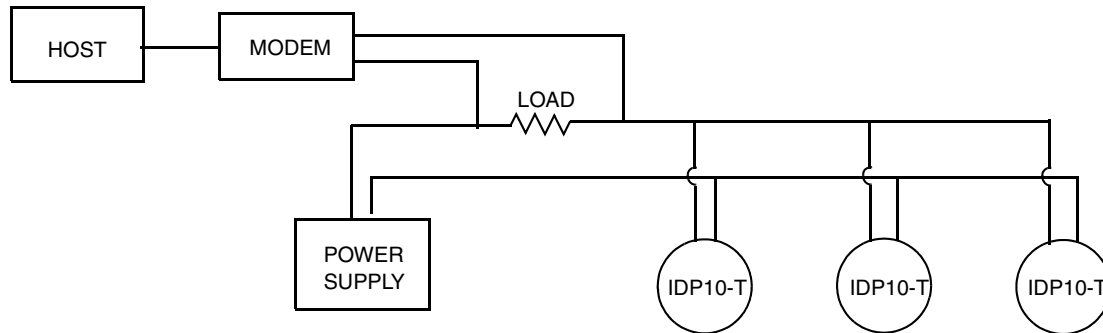

Figure 18. Typical Multidrop Network
Figure 18 shows a typical multidrop network. Do not use this figure as an installation diagram. Contact the HART Communications Foundation, (512) 794-0369, with specific requirements for multidrop applications.